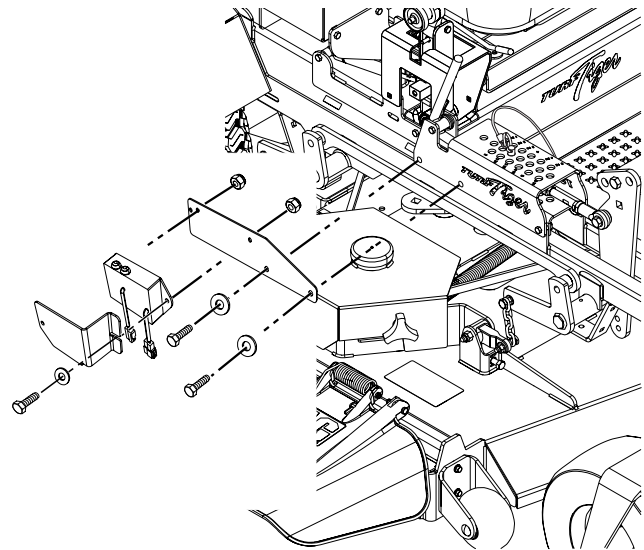

Figure 3-28. RF Module and Mounting Bracket Installation
11. Remove and retain the two (2) 3/8-16 x 1 1/4" bolts, lock washers and flat washers securing the right hand drive handle to the control lever bar.
16. Install the RF switch into the end of the right hand drive handle. See Figure 3-28. It may be necessary to add a light application of silicone to retain the switch in the handle.